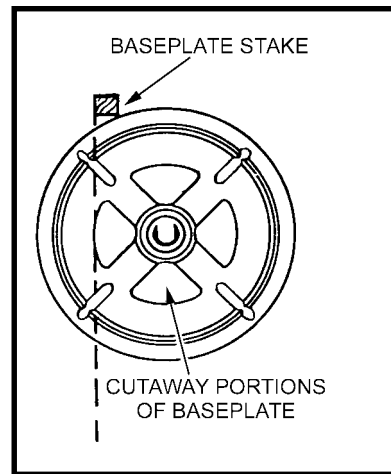

Figure 4-7. Baseplate placed against baseplate stake.
a. The gunner places the outer edge of the baseplate against the baseplate stake so that the left edge of the cutaway portion of the baseplate is aligned with the right edge of the stake (Figure 4-7). He rotates the socket so that the open end is pointing in the direction of fire. During training, the gunner may use the driving stake from the aiming post case.